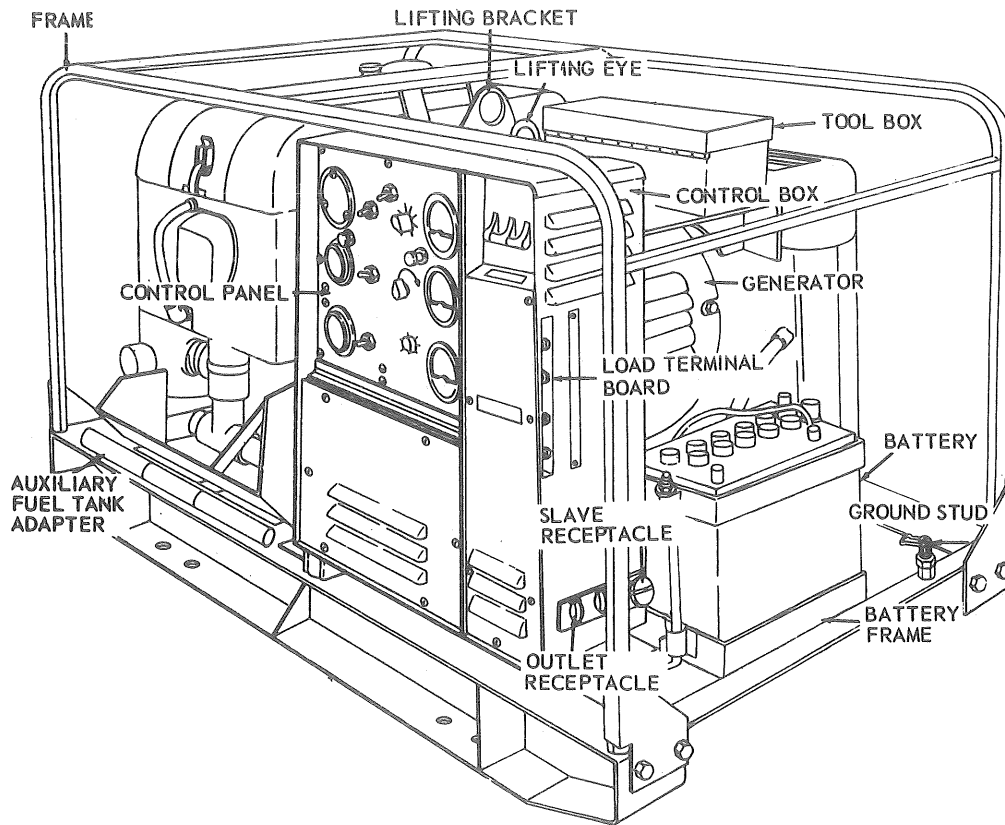

Figure 1. Front view Generator Set 5 KW.
2. Ground generator set. (Refer to fig 1, and TM 5-6115-332-14, para 2-2c.)
3. Connect power cable for 120 V, 1-phase, 2-wire to generator set load terminals L2 and L3. (Refer to fig 1, and TM 5-6115-332-14, para 2-2d, table 2-1.)
4. Connect auxiliary fuel hose. (Refer to fig 1, and TM 5-6115-332-14, para 2-2b.)